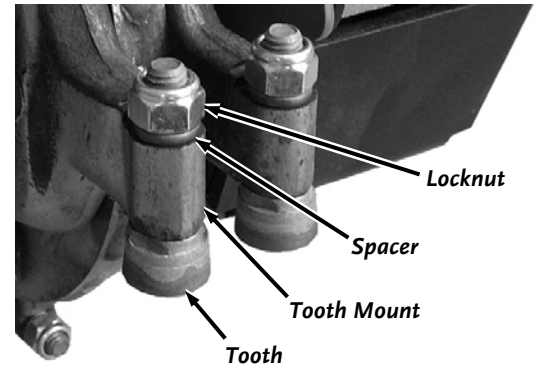

Figure 24
2. Remove the Locknut from the tooth threads (**Figure 24**).